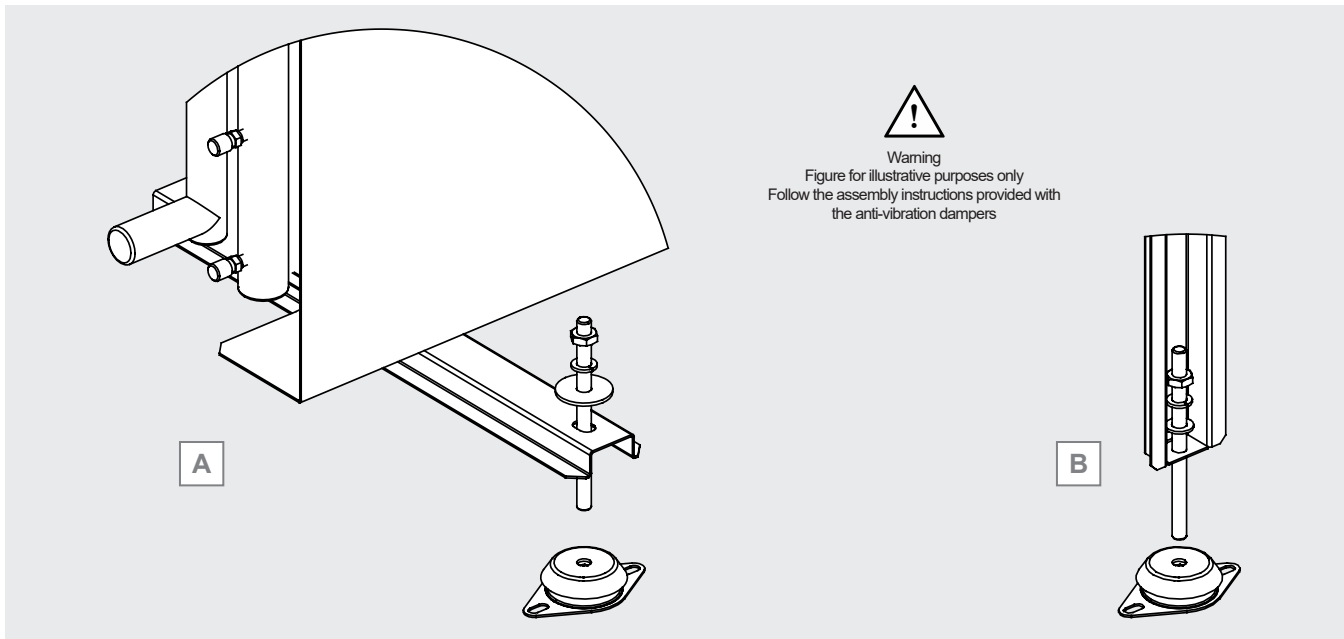

Figure 5
6.12 The equipment must be securely anchored to the support base, use all the fixing points. In order to prevent the transmission of noise, Possibly use shock absorbers. See Figure 5 A for horizontal airflow models and B for vertical airflow models (optional).